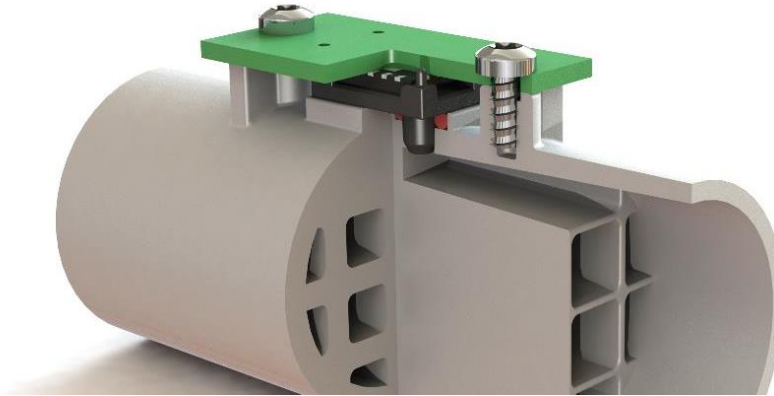

Figure 5.1: Rigid connection between PCB and manifold
- The manifold or main flow channel is fastened to the PCB. This can be achieved by clip-in pins, gluing or screwing the PCB to the manifold. With the sensor and the flow guide being firmly attached to the board, shear forces can be absorbed (see Figure 5.1).